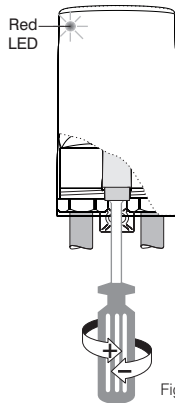

Fig. 7
- make the threshold adjustment (from 2 to 200 LUX) by turning the trimmer (fig. 7); the LED will light up to indicate the activation status of the threshold.